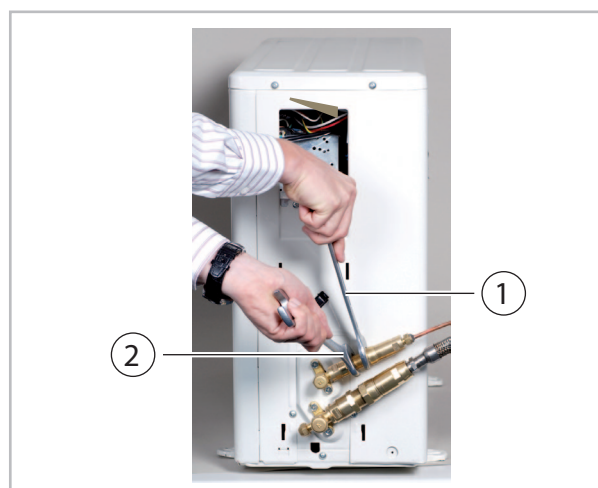

Fig. 24: Tightening the fitting
6. ➤ Then tighten the fittings with 2 appropriately-sized open-ended spanners. Use one spanner to counter the force when tightening the fitting (Fig. 24).